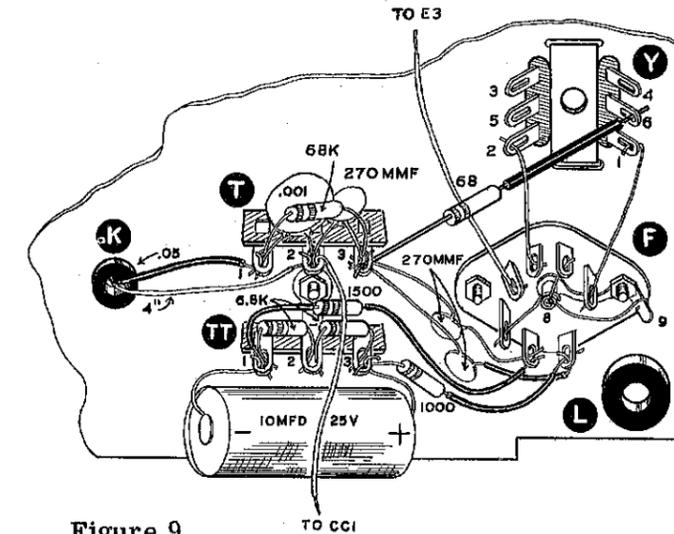

Figure 9
- (✓) Connect a 270 μ fd disc condenser from socket F2 (NS) to terminal strip T3 (NS). Dress close to chassis. See Figure 9.
- (✓) Connect a 270 μ fd disc condenser from socket F1 (NS) (use sleeving) to terminal strip T3 (NS). Dress close to chassis.
- (✓) Run a 1500 Ω resistor (brown-green-red) from socket F2 (S) (2) (use sleeving) to terminal strip TT1 (NS) (use sleeving). Dress close to chassis between strip T and TT.
- (✓) Run a 1000 Ω resistor (brown-black-red) from socket F1 (S) (2) (use sleeving) to terminal strip TT3 (NS).
- (✓) Connect a 6.8 K Ω resistor (blue-gray-red) from terminal strip TT2 (NS) to TT3 (NS). Dress between T and TT as shown in Figure 9 and Pictorial 1.